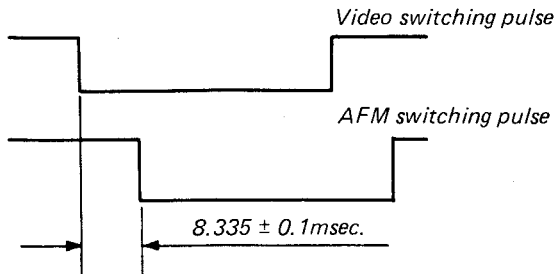

Fig. 1-4-20 Phases of video and AFM switching pulse
11) AFM tracking center adjustment (Fig. 1-4-20)